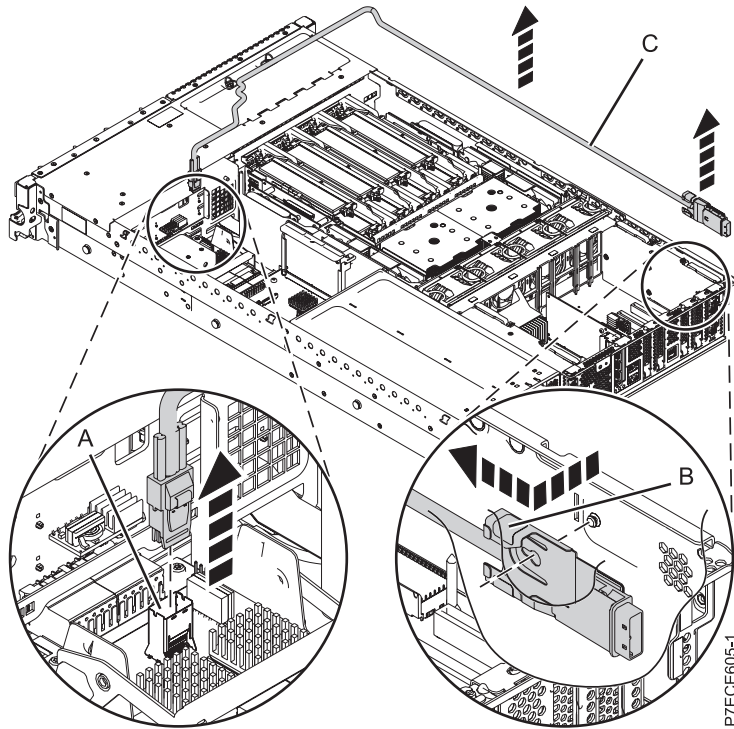

Figure 39. Removing the external SAS port
- 1) Press the side tab **(B)** and pull out the SAS shroud from the external SAS connection port on the disk drive backplane. See Figure 39 on page 53.